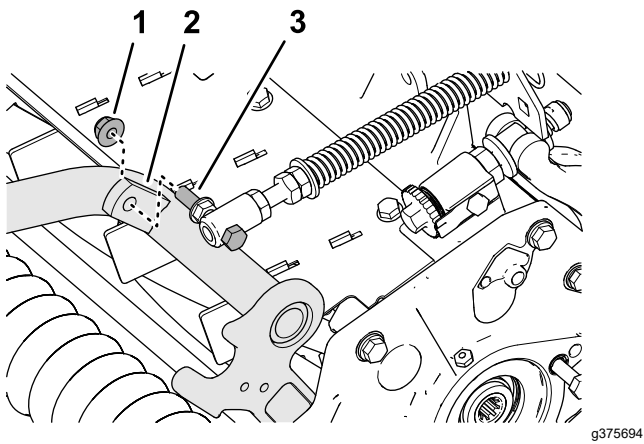

Figure 9
4. Assemble the capscrew of the turf compensation spring to the right tab of the carrier frame (Figure 9) with the flange locknut (3/8 inch).